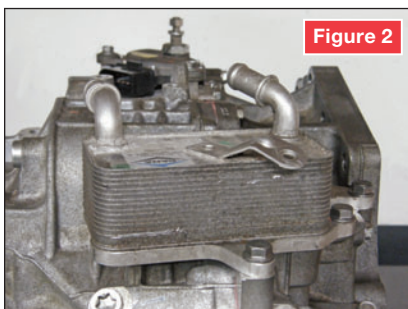
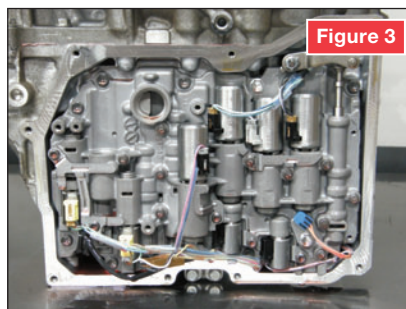

Figure 2
Figure 3
2. Pull the quick disconnect (Figure 2) and the 2-inch piece of steel line out of the old slave cylinder.
3. Get a piece of 3/8-inch ID hose and push it on to the end of steel line (Figure 3).
The very first difference seen is with the heat exchanger. It is now rectangular in design as opposed to being cylindrical (Figure 2). This is your first clue to the 09G face-lift. When the pan and filter come off there is a whole new surprise. All the solenoids have been redesigned and relocated (Figure 3). The smaller pass through